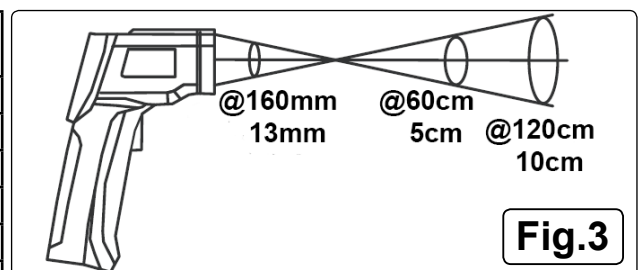

Fig.3
- 4.6. **Distance coefficient ratio see fig.3**
- 4.8.3. **Dual laser spot see fig.3**